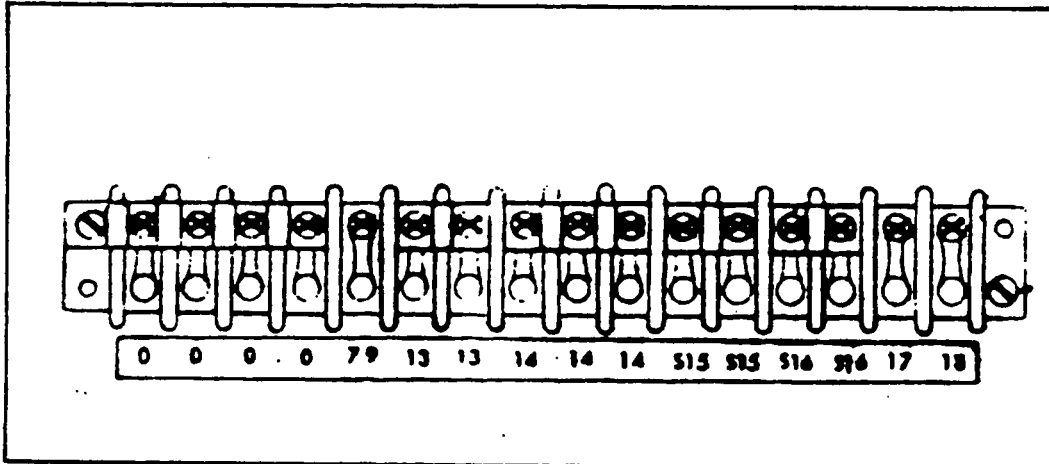

Figure 3.3-D. Terminal Strip TB4
**3.3.6- TERMINAL STRIP TB5 (Figure 3.3-A, 3.3-E)**